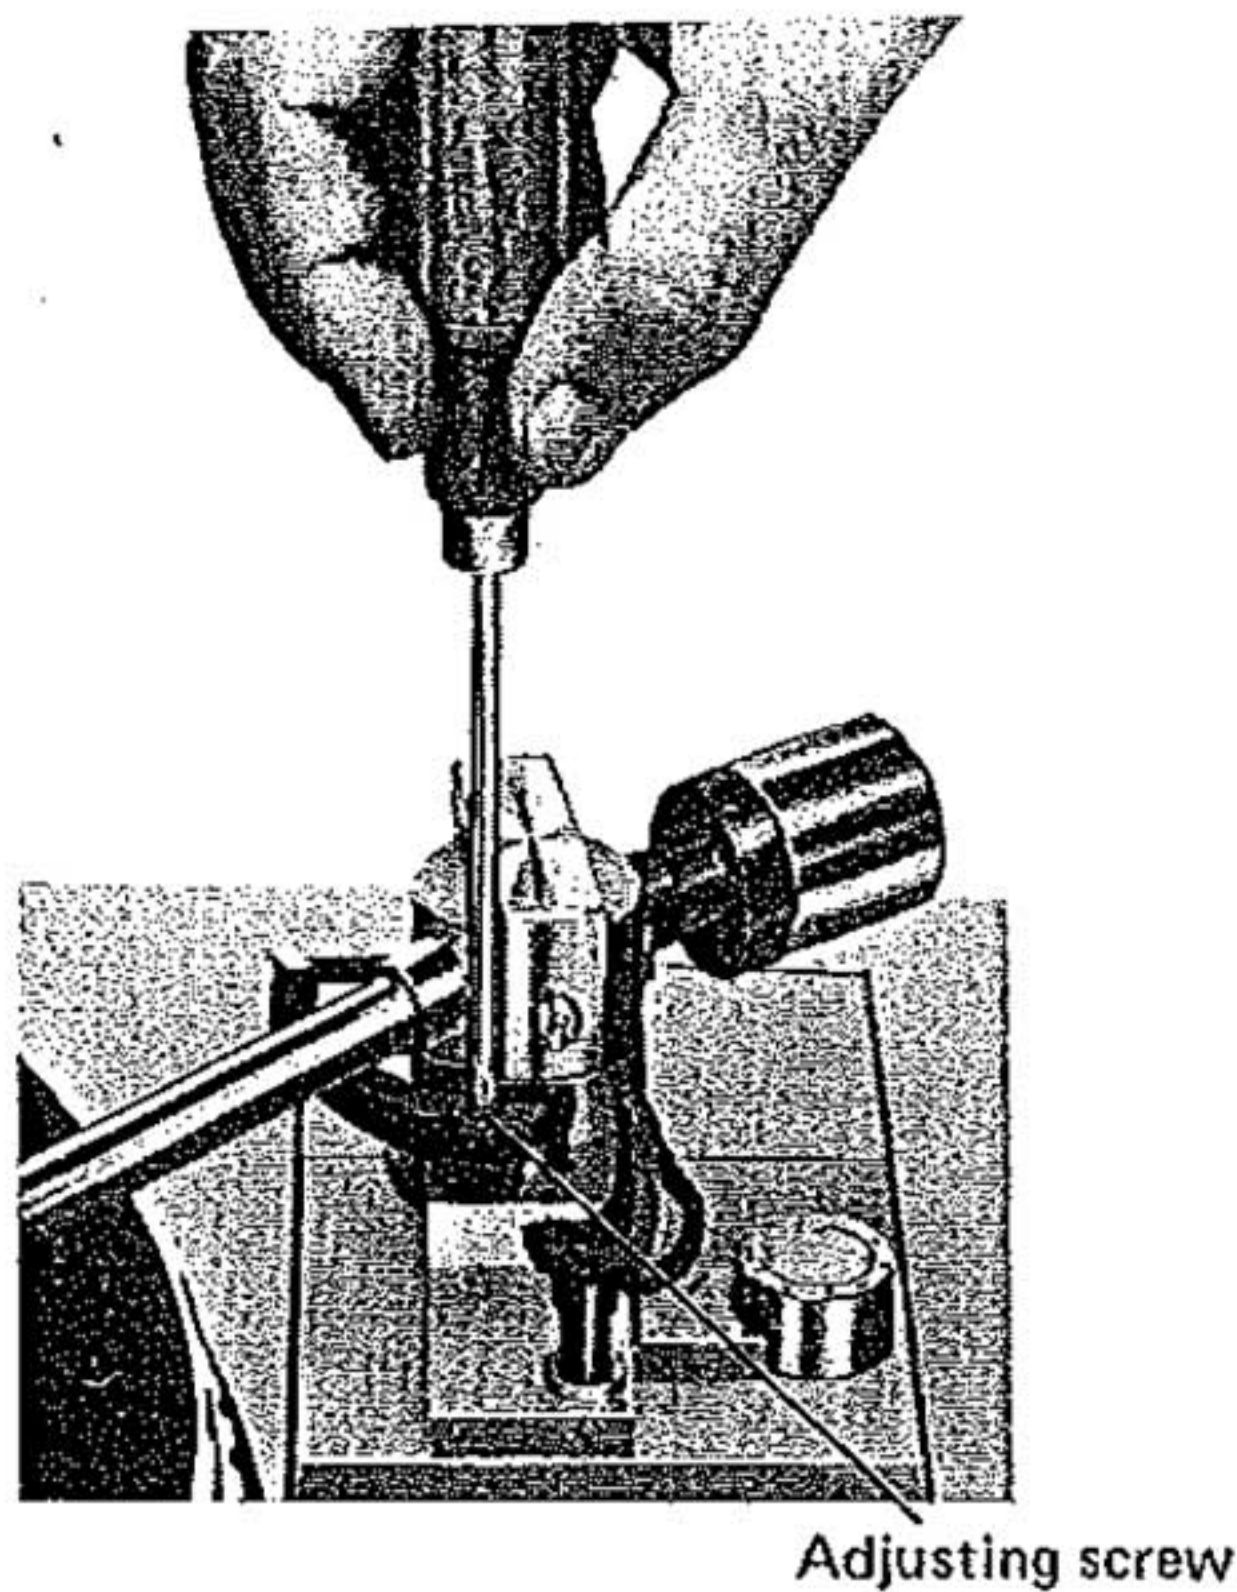

Fig. 6
- **Tonearm elevator height adjustment (Fig. 6)**